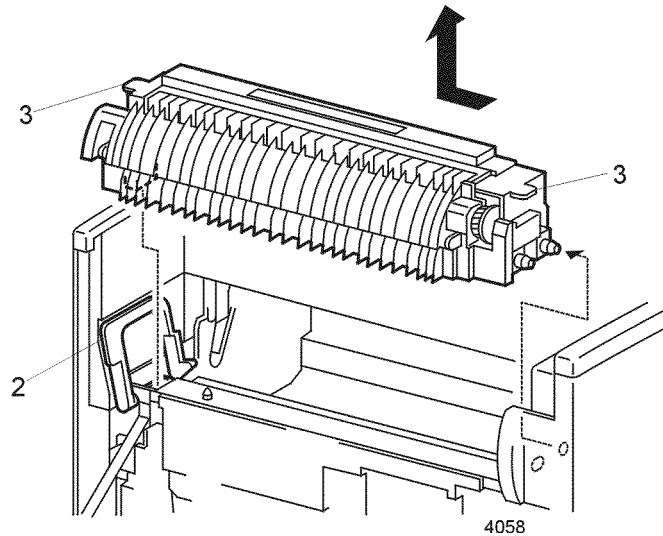

Figure 1 Fuser Assembly
2. Move the Fuser Locking Lever to the left (as viewed from the rear) (Figure 1).
3. Lift the left tabs to disconnect P/J174 then lift both the left and right tabs to remove (Figure 1).